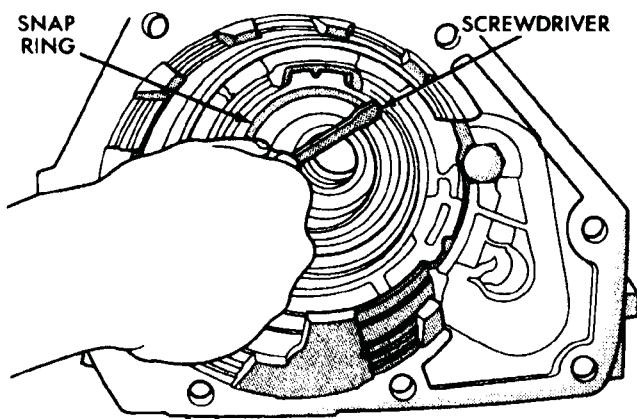

Fig. 73 Governor Support Snap Ring Installation
- (17) Install governor support snap ring (Fig. 73).